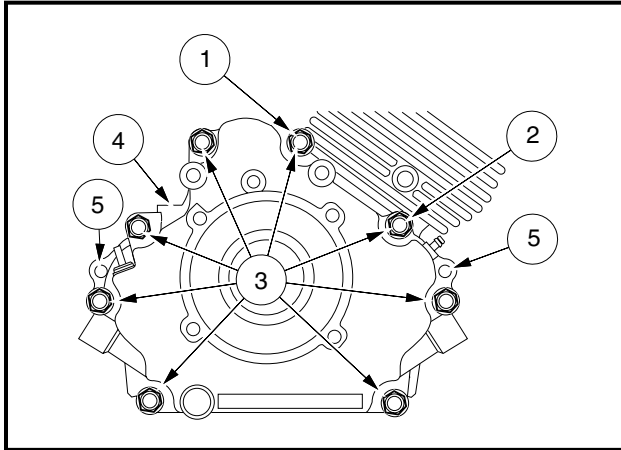

Figure 18-37 Crankcase Cover
3. Remove eight bolts (3) and remove the crankcase cover (4) (Figure 18-37, Page 18-21). **See following NOTE.**
**NOTE:** If the crankcase cover sticks, tap lightly with a plastic mallet on alternate sides near the dowel pins (5).